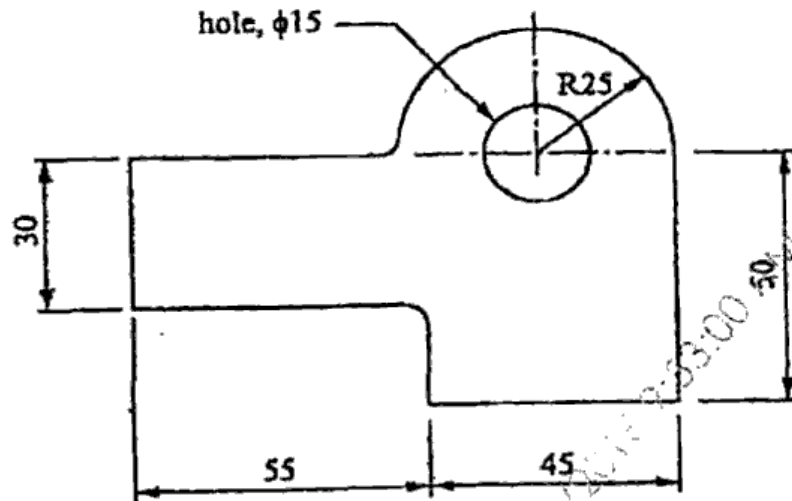

Fig. 2
- Q5 a) Write a complete APT part program to machine the outline of the geometry and drill a hole as shown in Fig. 2. The component is 5 mm thick. The end mill used is 10 mm in diameter and suitable drill. Assume suitable speed and feed for machining. 12